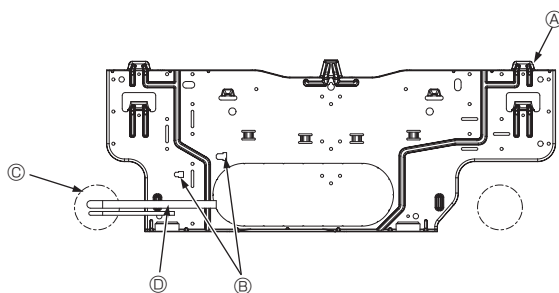

Fig. 3-5
- Ⓓ Fixing screws (4 × 25) ②
- Ⓕ Mount board ①
3.3. When embedding pipes into the wall (Fig. 3-5)
- Ⓐ Mount board ①